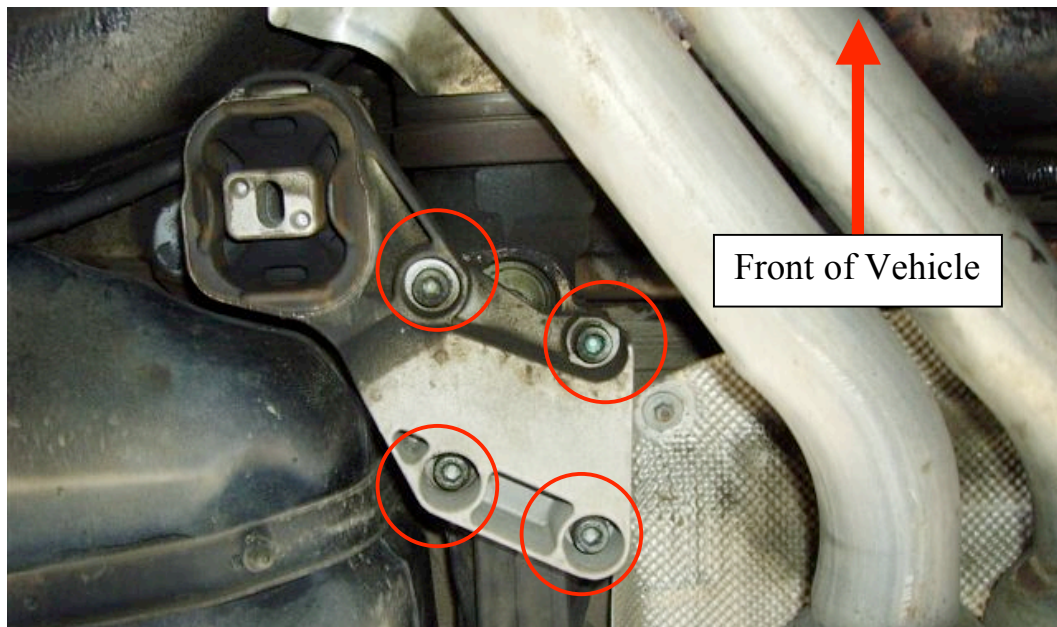

Figure 4
- 2) Remove the old differential mount by removing the 4 hex head allen bolts (8mm drive) – Figure 4.